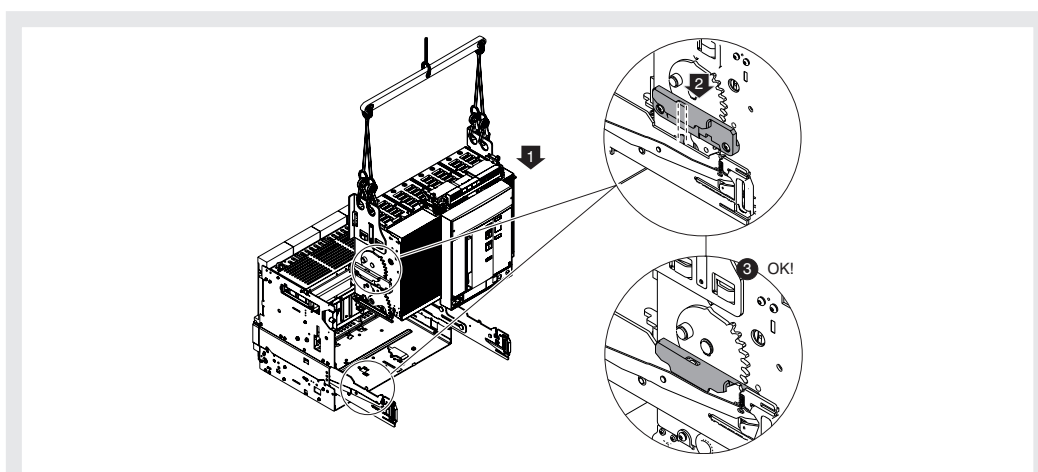

Figure 38
4. Position the moving part on the guides of the fixed part. Latch by inserting the hollow part of the side in the latch of the guide of the fixed part See Figure 38.